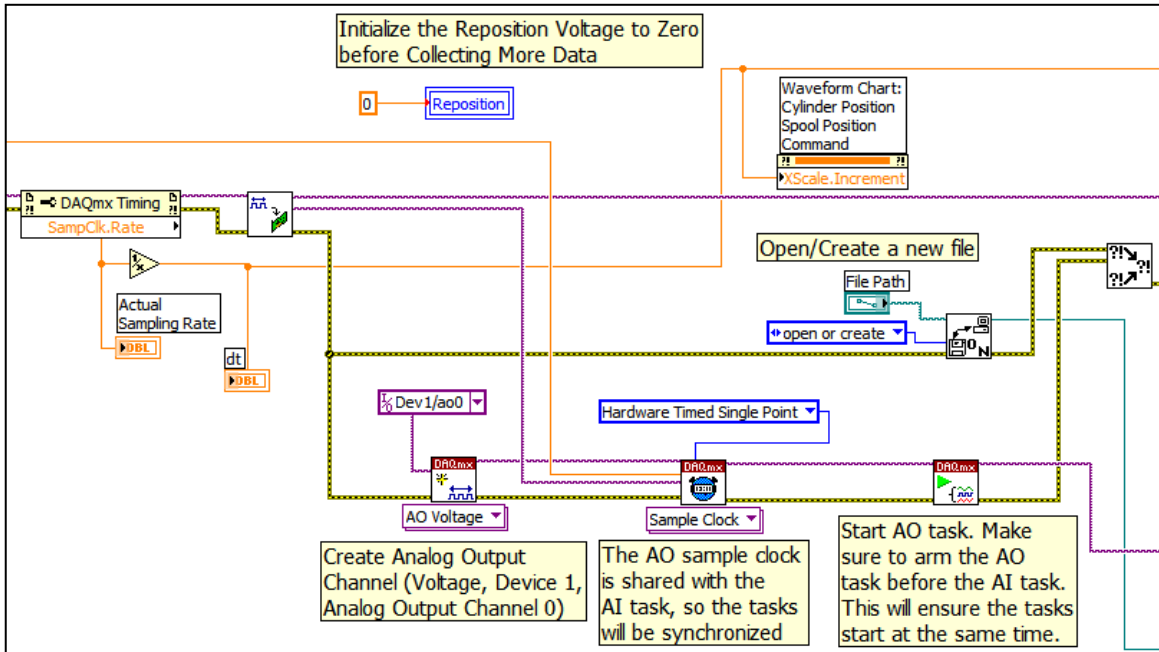

Fig. 3. Segment to Initialize the Analog Output Channel and Synchronize it with the Analog Input Channels
- This section also *opens* (or creates) a *data file* before the closed-loop control and data acquisition starts. The block diagram for this section of the program is shown in Fig 3.